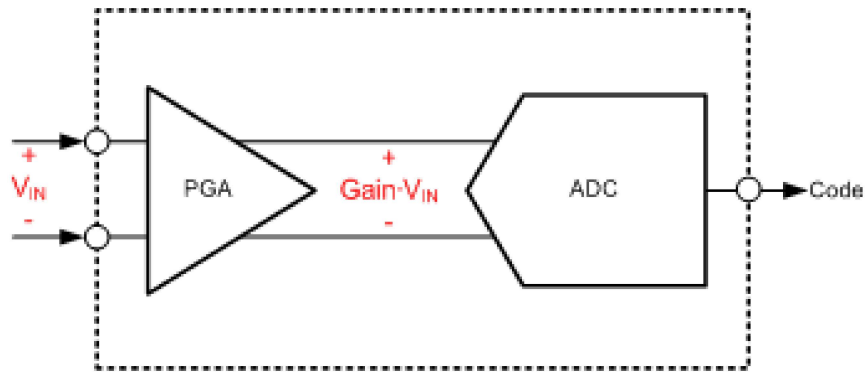

Figure 2: Input-referred voltage
- this equation in order to calculate the input-referred voltage in cases where the ADC incorporates a gain stage, as shown in Figure 2.
It is common for delta-sigma ADCs to integrate a programmable gain amplifier (PGA) gain stage prior to the ADC inputs; that's why Equation 3 includes the Gain term. By including PGA gain in the FSR calculation, the LSB size calculation accounts for this gain. This means that when you multiply the output code by the LSB size, the result is the input-referred voltage (V_{IN}) prior to the PGA input, as seen in Figure 2, and not the amplified (output-referred) voltage. Note that if the system uses additional signal conditioning prior to the ADC, the effects of this circuitry may require extra calculations to determine the system's input-referred voltage (prior to the signal-conditioning circuitry).